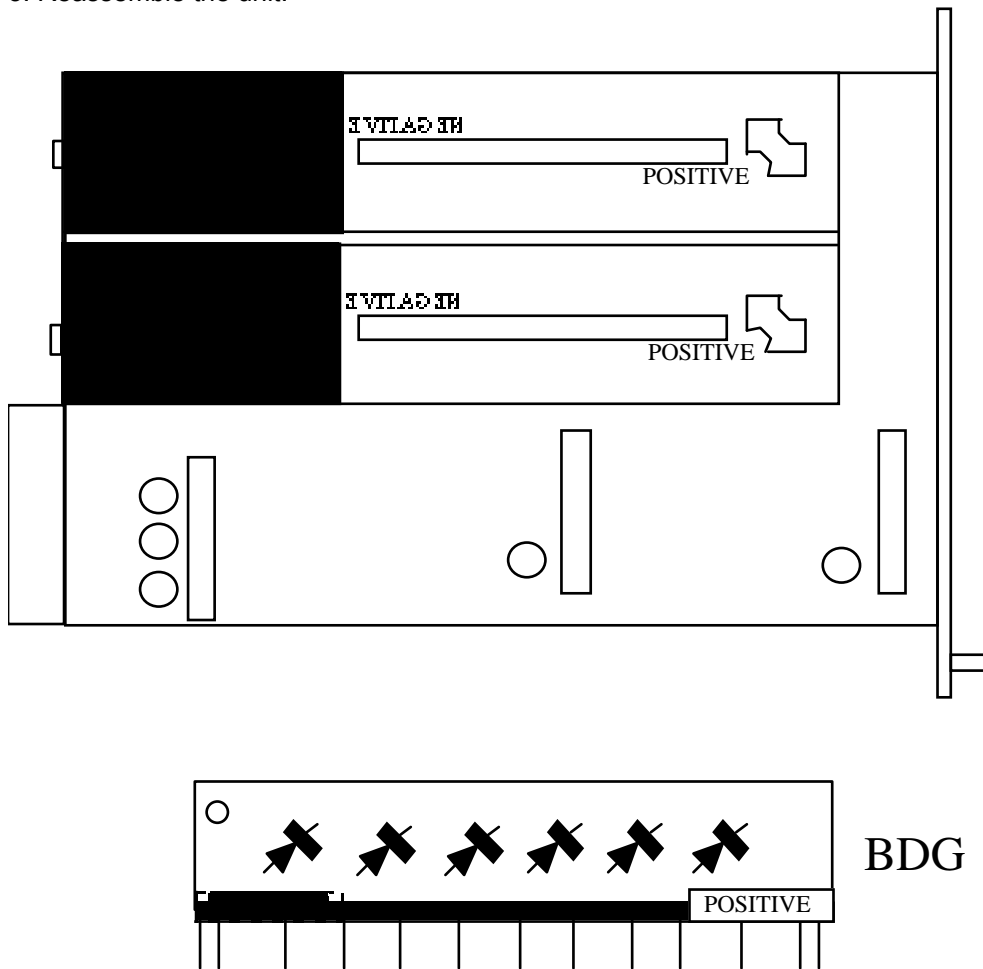

Figure 4 - showing the transformers in positive position.
The two multipliers will appear as shown in figure 4 with the channel 0 multiplier on the top. All the HV components are encapsulated in a silicon black rubber and only the DIODE BRIDGE labelled BDG in figure 4 is accessible to the user.
4. If the polarity of one or both channels must be changed, extract the module Bdg from its contacts and insert it in the opposite position according to the figure 4.